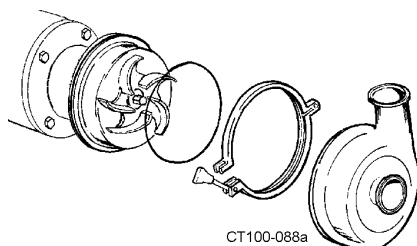

Figure 59 - Install O-ring, Casing, Clamp
15. Install the O-ring and casing; clamp in place (Figure 59).